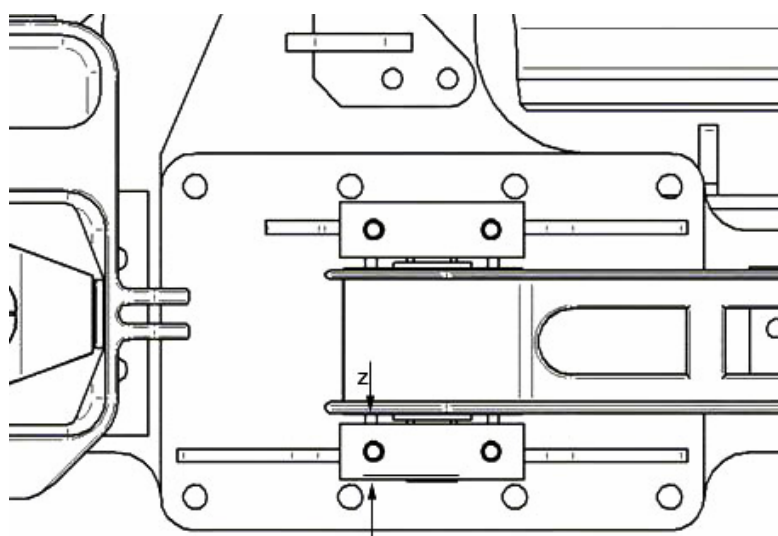

Figure 21.2: Measurement of Dimension 'z'
- 21.6 Centralise the bogie about the axlebox pivot bush brackets so that the outside edge of the bush and pivot bush bracket is approximately equal both sides, see Figure 21.2, Dimension 'z'.